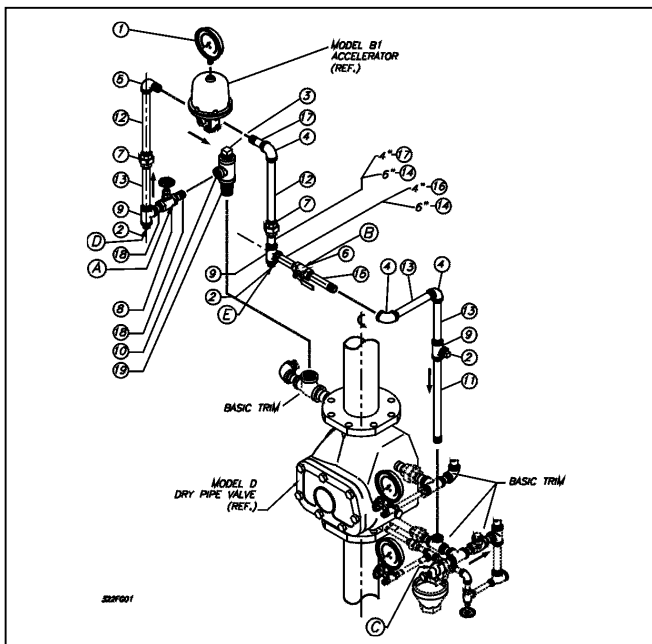
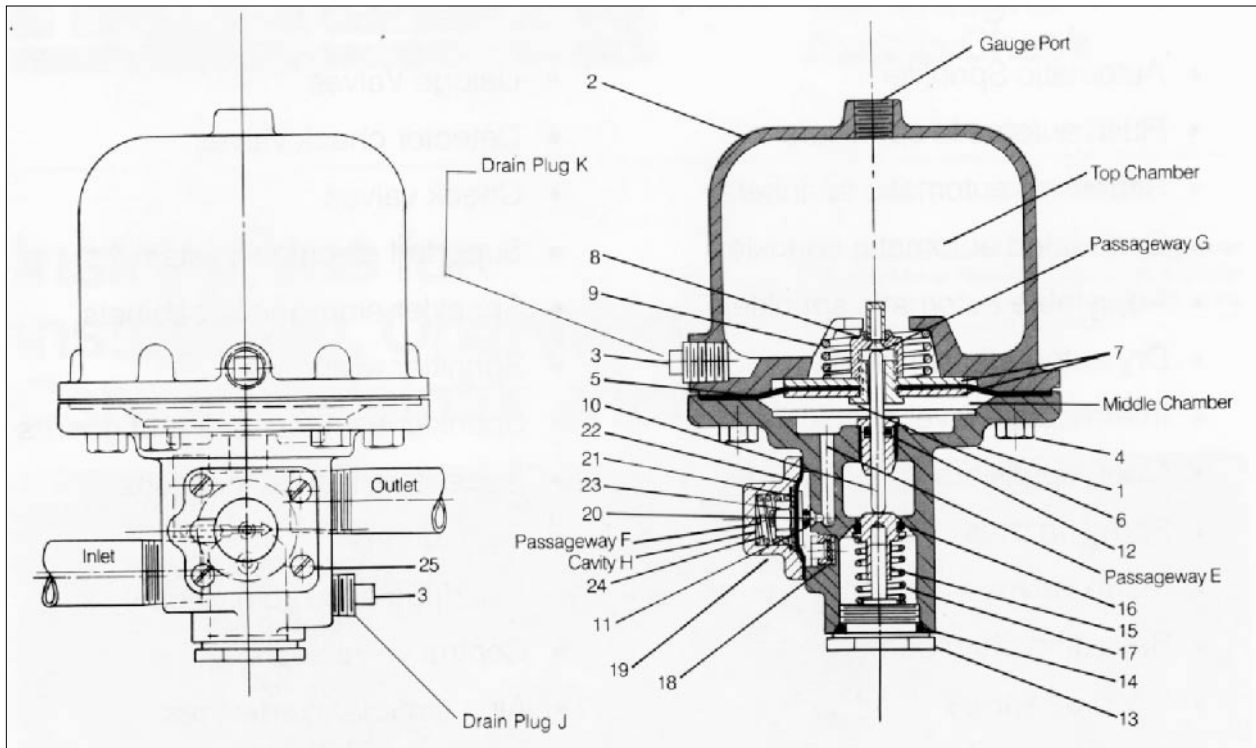

Fig. 1
Figure 2
The Model B1 Accelerator is a normally closed valve with  $\frac{1}{2}$ " NPT ports, and it is sensitive to a rate of air pressure change. This device retains normal dry system air pressure in the top chamber, Figure 2, even though the system air pressure may be dropping, such as when one or more sprinklers open. The resulting differential force which is created across the Diaphragm Assembly (5-8) forces the Poppet (15) open, allowing system air pressure to pass to the intermediate chamber of the dry pipe valve and causing it to open. Simultaneously, pressurized air passes through the accelerator and closes the integral Accelo-Check (11,20-24) by pressurizing cavity H and preventing water and waterborne debris from entering the internal restriction area in passageway G. This increases the reliability of the device and reduces the maintenance which would otherwise be required to clean the accelerator after each operation.
Figure 2 depicts the accelerator in the closed position while being pressurized. The accelerator is filled by air from the dry pipe system entering the accelerator inlet, passing through the Filter Assembly (18) and passageway E to the Middle Chamber. The air pressure lifts the Diaphragm Assembly off the Push Rod (10) opening passageway G. The air then completely fills the Top Chamber to the system pressure. When filled, the Diaphragm Assembly rests on the push rod end and closes passageway G, except for minor leakage which is designed to compensate for air pressure fluctuations in the system.
The Reliable Model B1 Accelerator is quickly attached to the Reliable Model D, 4" or 6" Dry Pipe Valve using the Model BD-2 Accelerator Trimmings. No alterations are required to the sprinkler system for this installation. Figure 1 depicts the trimmings and indicates the dry pipe valve attachment points.
1. Close Valves A and B, Fig. 1.
4. Remove Plugs D and E, Fig. 1.
5. Remove the Body Drain Plug J, Fig. 2.
7. Remove the Accelo-Check Body (19), and gently lift the Accelo-Check Diaphragm Assembly (22) to verify venting of the middle chamber. Carefully reinstall these parts.
8. Partially open Valve A, Fig. 1, gently purging any water which may be in the trim lines. Close Valve A. Replace Plugs D and E. Partially open Valve A and gently purge. Close Valve A and replace the Body Drain Plug J, Fig. 2.
9. Pressurize the accelerator by opening Valve A, Fig. 1. Open Valve B and check for leakage at the Ball Drip Valve C. The top chamber pressure should equal the system pressure.
2. Loosen the Body Drain Plug J, Fig. 2, to decay the pressure at the inlet of the accelerator. This will simulate a system decay as when one or more sprinklers open. The accelerator should operate.
3. Reset the accelerator following the instructions described in the "Resetting Procedure" section items 4 through 9.